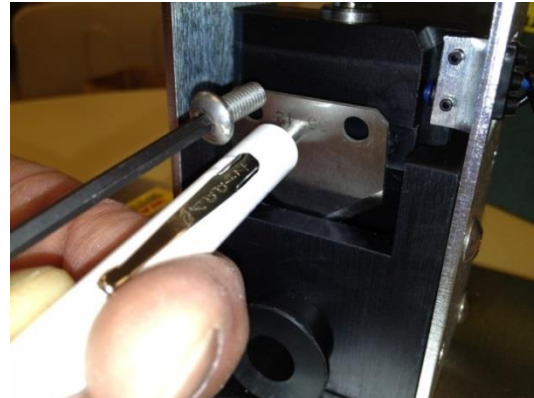

Figure 5.1.2
- Place a magnetic tip screwdriver (*provided*) on the cutter blade, then remove two (2) mounting screws using a 3mm hex key wrench. (*T-handle preferred*) *Figure 5.1.2*